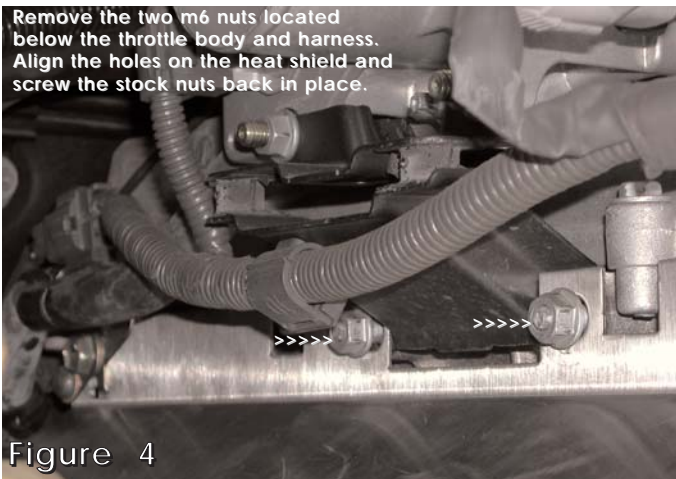

Figure 4
- 3- Remove the two m6 flange nuts under the throttle body and harness. Align the heat shield to the bolt pattern on the engine block and replace the two m6 nuts removed. (See fig. 4)